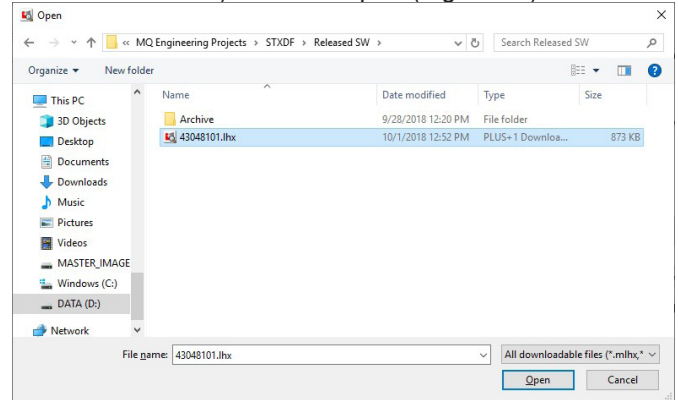

Figure 26. Select File 43048_ Screen
6. Select file 43048_*.LHX file (* represents current revision of file) and click open (Figure 26).